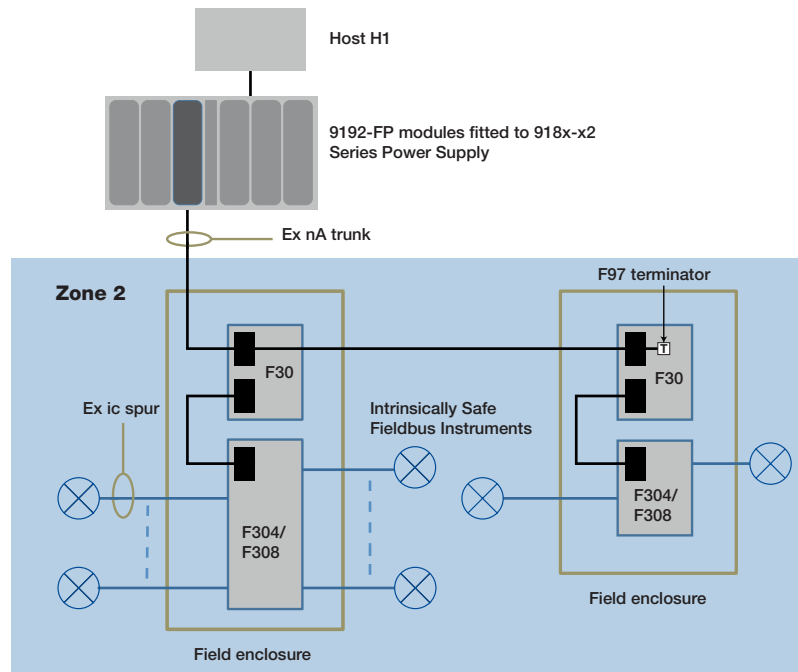

Figure 4.7 – Segment extension using 2 x F30 adaptors
- Use the available second set of terminals on the trunk connector in the first enclosure to onward connect the trunk wiring to the second enclosure - as shown in Figure 4.7.